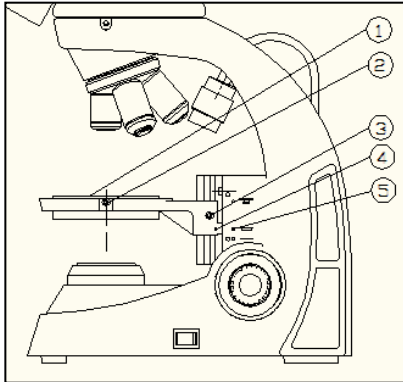

Fig 23
Put the culture dish ① into the holder, use a hexagonal wrench lock the screw ②. Adjust coarse focusing wheel to lift the holder to the top position, loose the screw ③ to move the holder, and then lock the screw ③ when the mark ④ and ⑤ are horizontally aligned. (See Fig.23) (Only available under 2X objective)